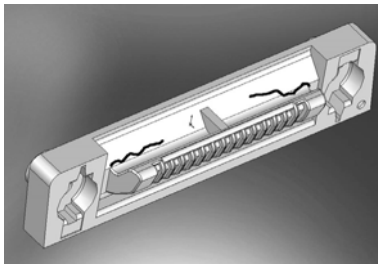

Figure 1: Male IUI Connector
1. Visually inspect the right side (male) IUI connector for cracks on the entire surface of the black colored plastic housing. See Figures 1 and 2 for the male IUI inspection area and typical cracks.